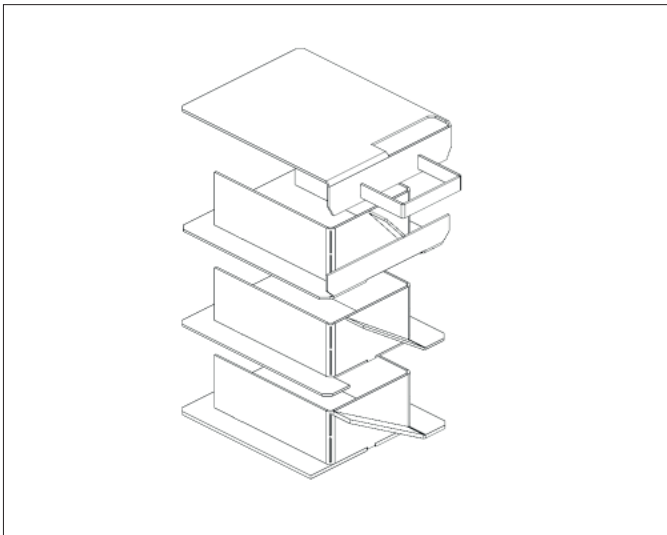

Figure 11-1: Baffles (15/21 model)
2. Remove the baffles as shown in Figures 11-1 to 11-5.
6. Replace the baffles, ensuring they are correctly fitted. Refer to Figures 11-1 to 11-5, as appropriate.